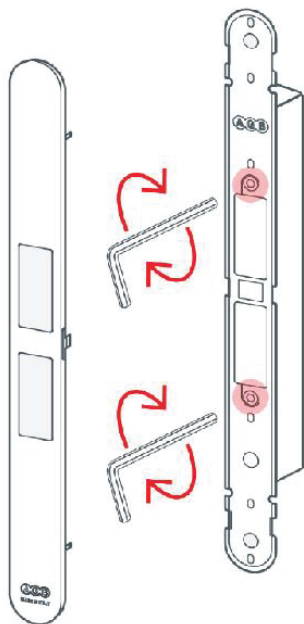

Figure 9
7. With 3mm Allen Key adjust the magnetic catches as needed. See Figure 9